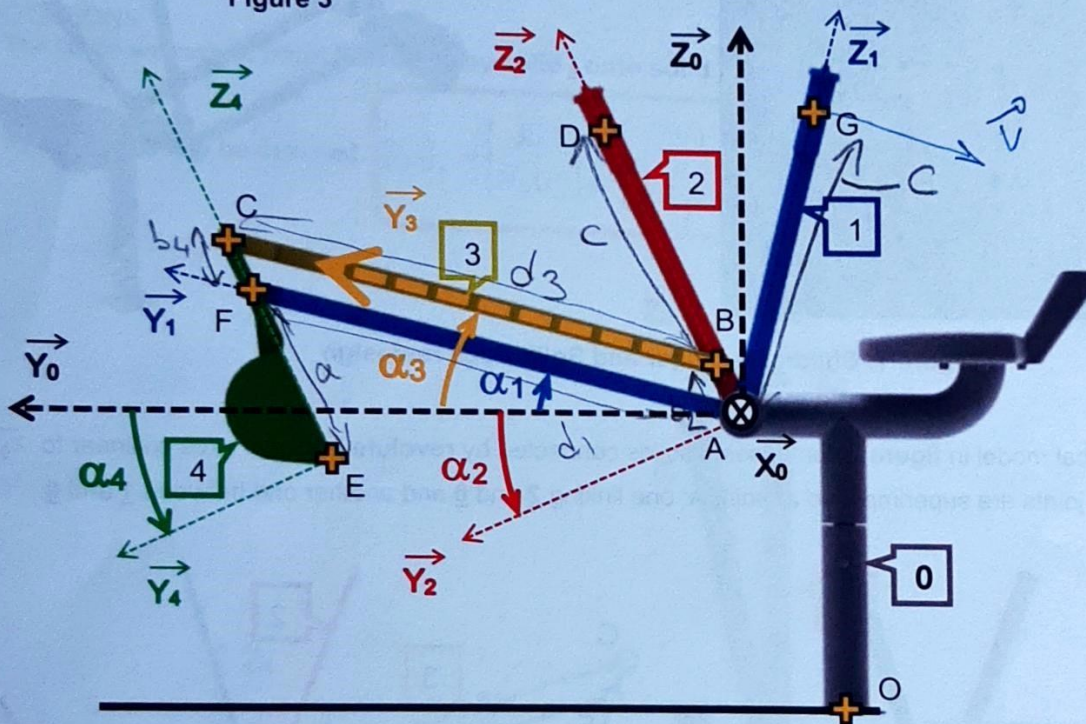

Figure 4
- 6- (*Bonus optional question*) If the system is to be used so that point E of the shovel moves horizontally on the ground (see Figure 4), what would be the additional constraint equation (do not develop)? What could then be deduced about the use of the handles in this configuration?